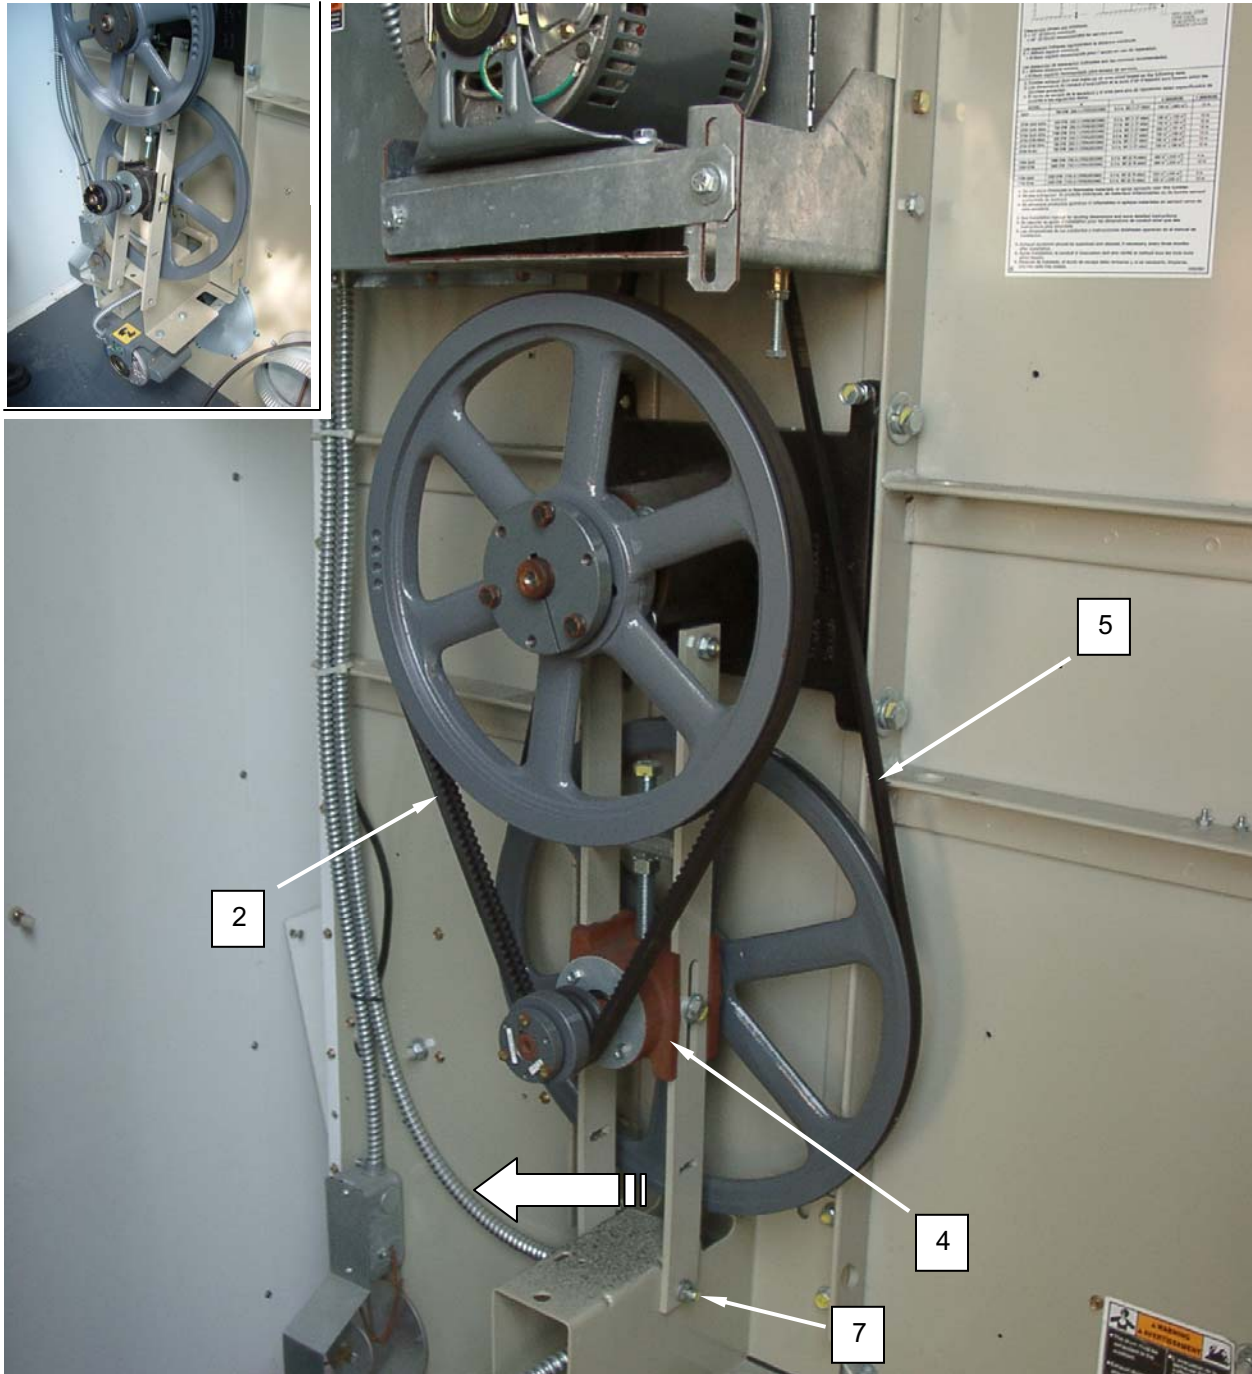

Figure 3. Replace the Dryer Drive Belts.
3. Loosen screws retaining the idler housing (**Figure 3, Item 4**) and release tension from outer belt (**Figure 3, Item 2**).
4. Remove outer belts (**Figure 3, Item 2**).
5. Remove the lower bolt (**Figure 3, Item 7**) from the idler housing (**Figure 3, Item 4**) and allow the idler housing to swing out.
6. Remove inner belt (**Figure 3, Item 5**).
7. Install replacement inner belt (**Figure 3, Item 5**).
8. Position the idler housing (**Figure 3, Item 4**) back in place and retain with the lower bolt (**Figure 3, Item 7**).
9. Install replacement outer belts (**Figure 3, Item 2**).